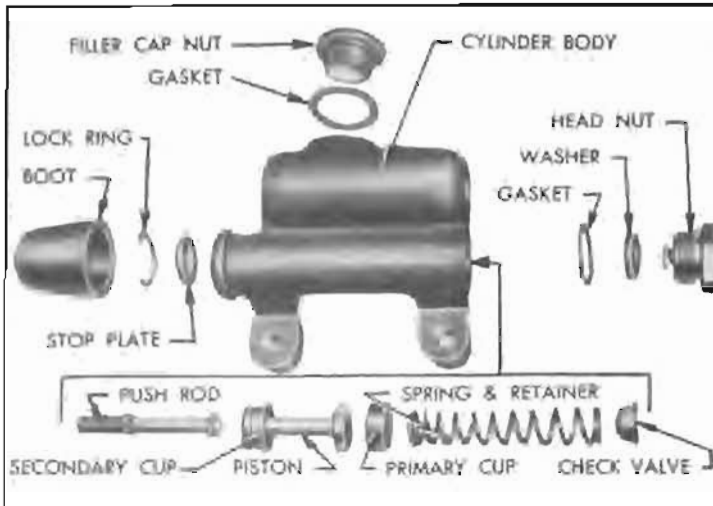

Figure 8-13—Master Cylinder—Disassembled
3. Remove filler cap nut and drain all fluid from master cylinder. Remove head nut, check valve, and spring. Turn the boot back, remove lock ring, then remove push rod, stop plate, piston, and primary cup. See figure 8-13.
8. Install stop plate, lock ring, push rod and boot. Dip internal parts in brake fluid, then install piston with secondary cup, primary cup, spring with retainer against primary cup, check valve, and head nut with rubber washer and gasket. Tighten head nut securely. Install filler cap nut and gasket to keep dirt out of reservoir. See figure 8-13.